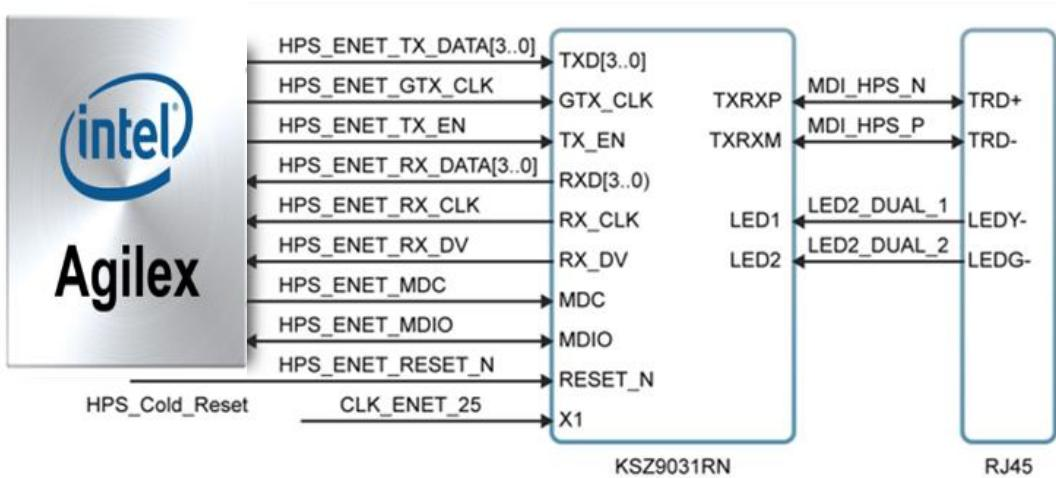

Figure 2-22 Connections between the HPS of Apollo Agilex and RGMII MAC
**Figure 2-22** shows the connections between the HPS, Gigabit Ethernet PHY, and RJ-45 connector.